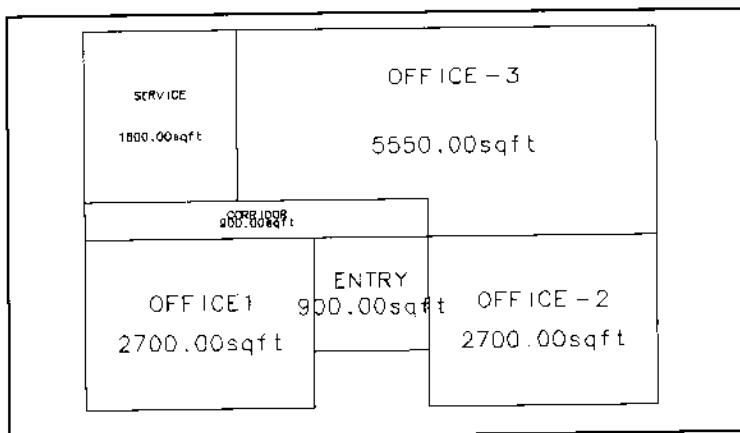

Figure 23.
4. The completed space diagram is shown in Figure 23 to help you visualize the finished exercise.